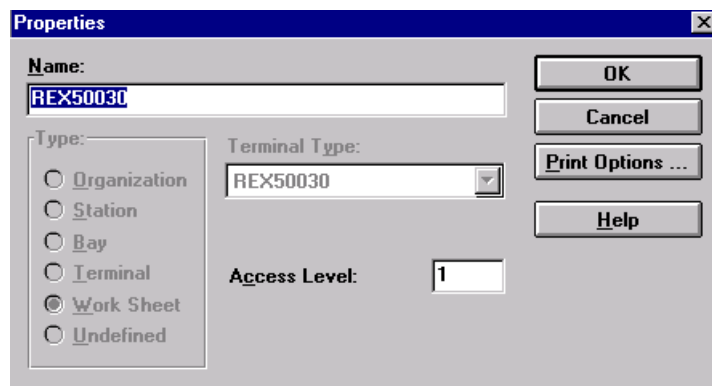

Fig. 40 The Properties dialog box, which is used to assign a page layout.
- 2 Double-click on the right mouse button, and the Properties dialog box appears, see Fig. 40. Or you open the properties dialog by highlighting a work sheet, and then select 'Object Properties' in the Edit menu.